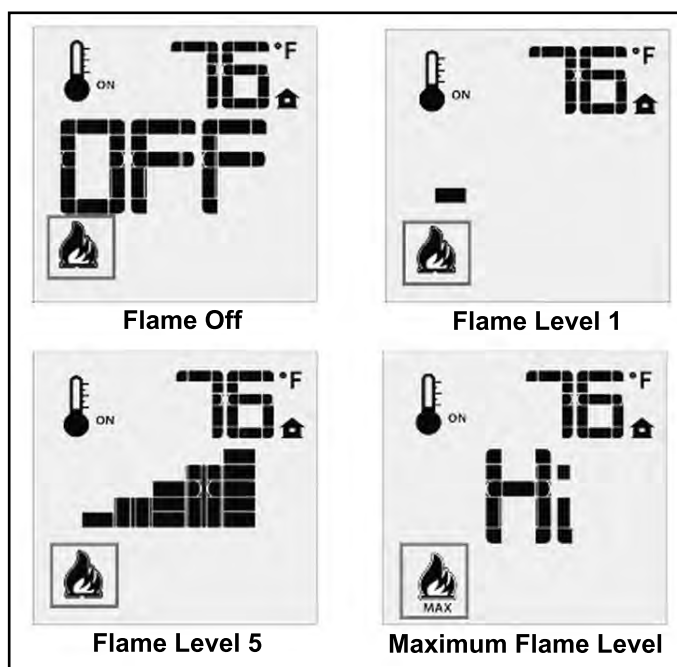

Figure 113: Remote Control's Flame Levels.
The Proflame GTMF has six (6) flame levels. With the system on, and the flame level at the maximum in the appliance, pressing the Down Arrow Key once will reduce the flame height by one step until the flame is turned off. The Up Arrow Key will increase the flame height each time it is pressed. If the Up Arrow Key is pressed while the system is on but the flame is off, the flame will come on in the high position (refer to Figure 113). A single “beep” will confirm reception of the command.